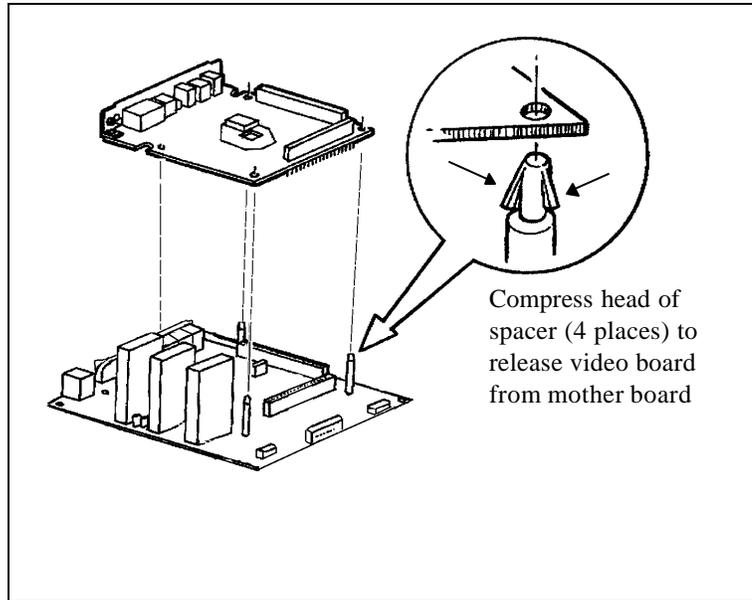

Figure 4- 5 Releasing video board from mother board
- a) With needle-nosed pliers, compress the wings on the head of one spacer while carefully pushing upward from under the video board with your other hand. Push up until the hole in the board slides past the spacer head. (Figure 4- 5)